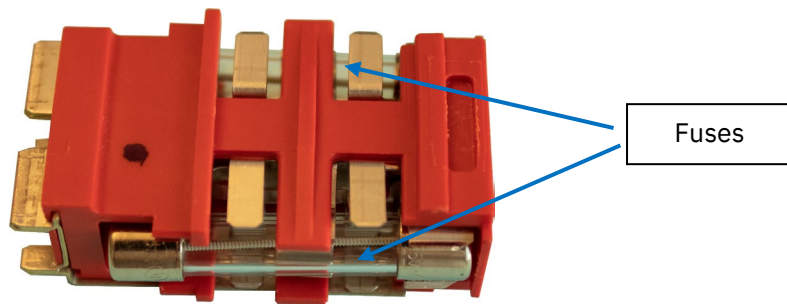

Figure 3 Places to insert proposed fuses.
6. Replace both fuses according to the markings on the instrument. For 230 V use 2.5 A slow blow fuse and for 115 V use 5 A slow blow. The fuse size is $\frac{1}{4}$ " x $1\frac{1}{4}$ " - see Figure 3.